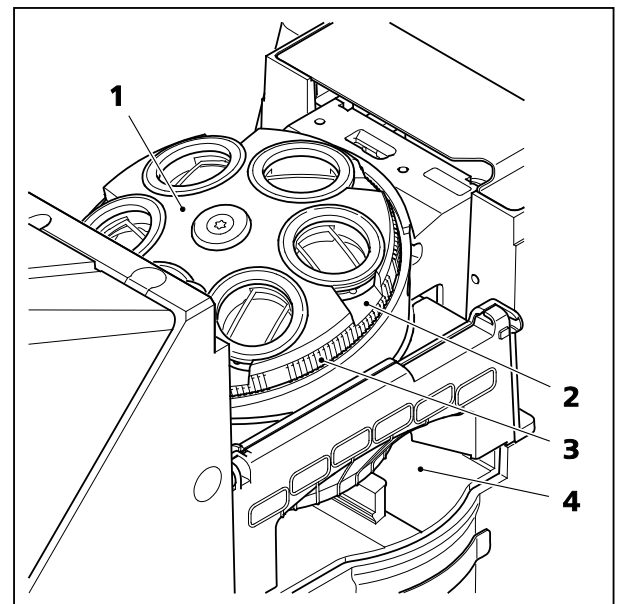

Fig. 63 Nosepiece with slot for DIC slider and PlasDIC slider; analyzer slider slot
- 6-position nosepiece H, DIC (Fig. 63/1) with DIC slider slots (Fig. 63/2) in all objective positions in manual, coded or motorized versions
- Manual and coded nosepieces: rapid objective change by rotating the nosepiece using the adjustment ring (Fig. 63/3)
Slot for analyzer slider (Fig. 63/4)